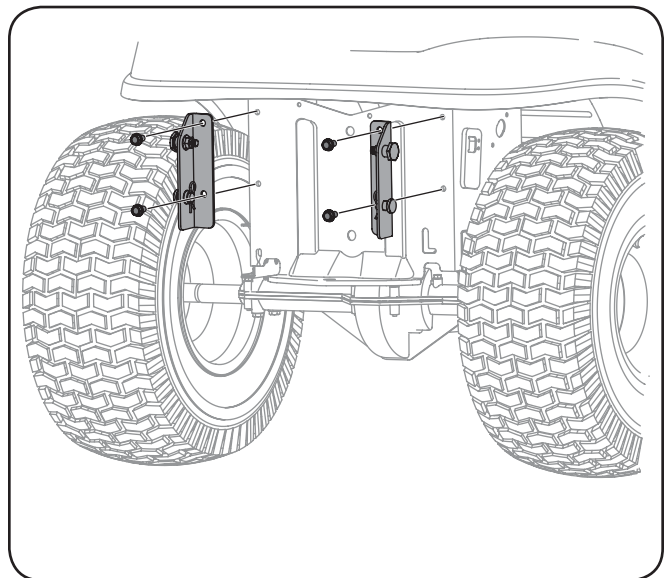

Figure 3-2
3. Mount the 700 series tractor mounting brackets to your tractor using four self-tapping hex screws included with your kit. See Fig. 3-2.